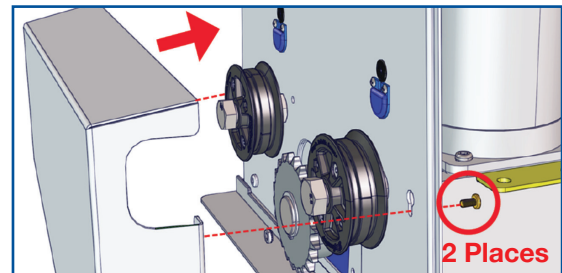

FIG. 5-3: Install Chain Guard
4. Repeat the procedure for the other limit target magnet for the other limit. Install chain guard per FIG. 5-3.